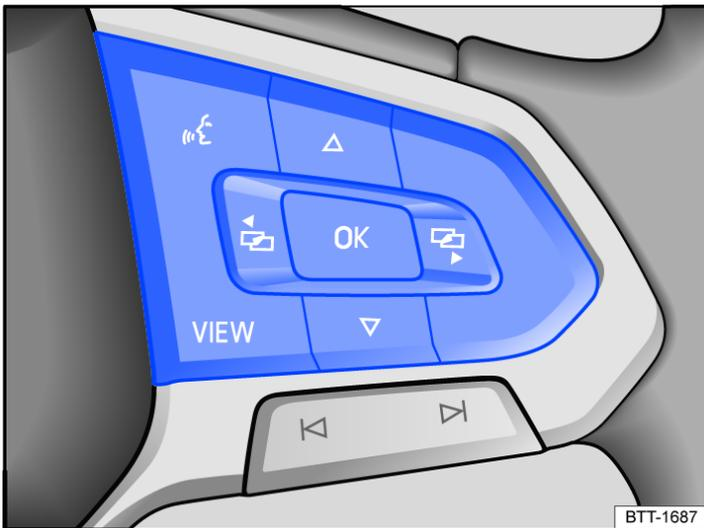

Fig. 1 Right-hand side of the multifunction steering wheel: controls for using the menus and information displays in the instrument cluster.
If any priority 1 warnings are displayed, you will be unable to open any menus (→ Warning and information messages). You can confirm and hide some warnings using the **OK** button on the multifunction steering wheel → Fig. 1.
- If a message or the vehicle pictogram is displayed, press the **OK** → Fig. 1 button, several times if required.
- Press the **←** or **→** button to display a menu or browse through a menu → Fig. 1.
- To open the menu or information display shown, press the **OK** button → Fig. 1 or wait until the menu or information display opens automatically after a few seconds.
- In the displayed menu, press the arrow keys **△** or **▽** → Fig. 1 until the desired menu option is marked. A frame appears around the selected option.